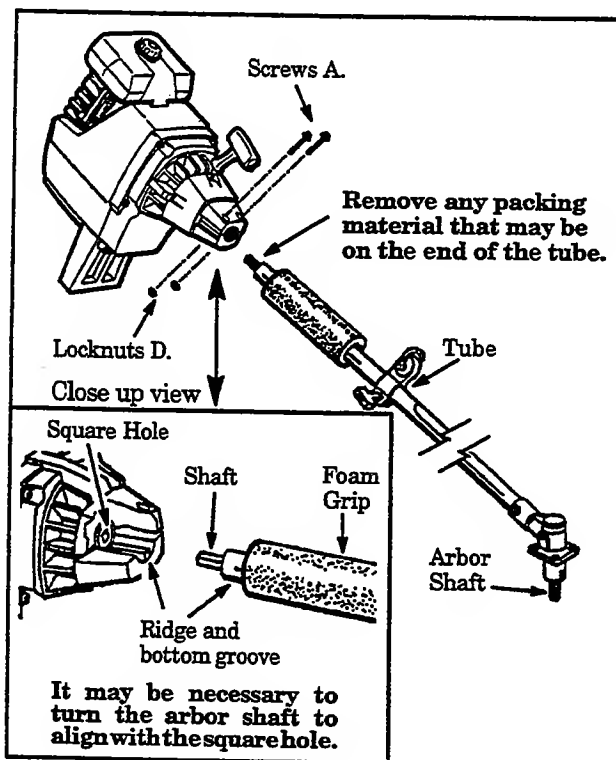

Figure 2
- Place screws "A." into the holes on the front shroud as shown in Figure 2.
- Turn the arbor shaft at the bottom of the tube as necessary to align the square end of the shaft with the square hole inside the front opening of the engine. Figure 2 (inset).
- Firmly push tube into the engine opening until the nose cone contacts the foam grip. Figure 2.
- Tighten screws "A." alternately with the hex wrench until secure. Figure 2.